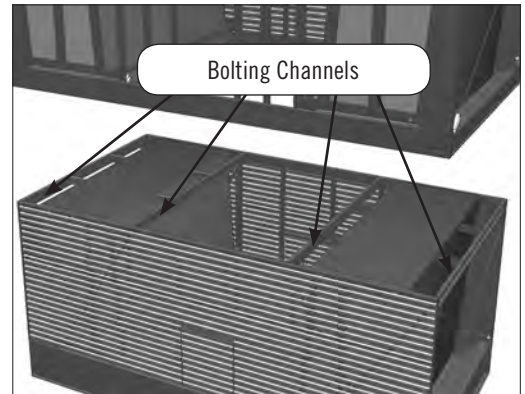

Figure 7. Bolting Channels
- Using drift pins in the drift pin guides provided (**Figure 7**), guide the top section on to the bottom section.